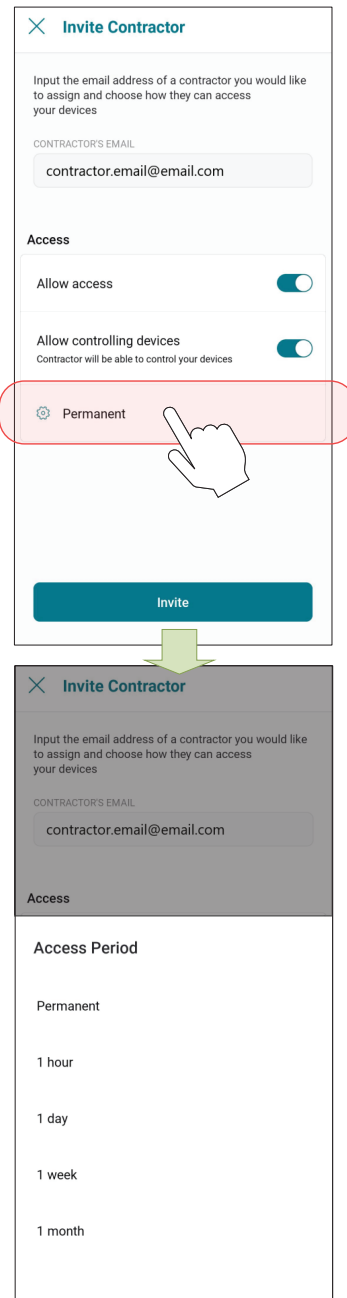

Figure 116. Enter Contractor Email and Access Level
6. Add your contractor’s email and select the access options as needed. See Figure 116: